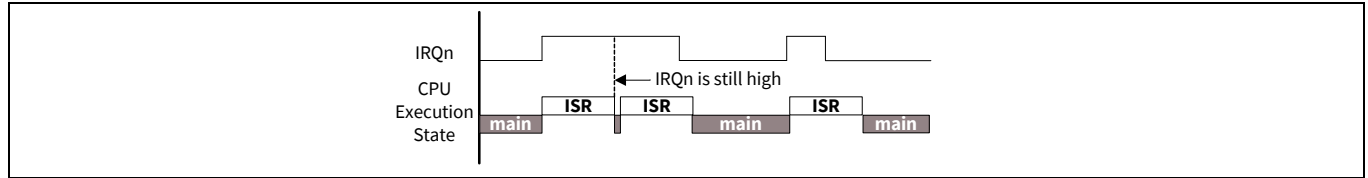
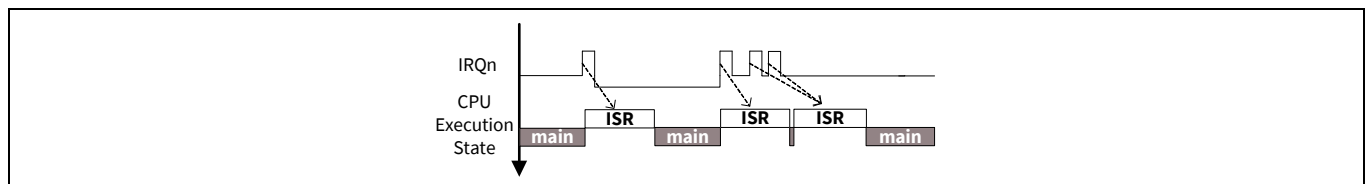

Figure 8-3. Level interrupts
Figure 8-4. Pulse interrupts
Figure 8-3 and **Figure 8-4** show the working of level and pulse interrupts, respectively. Assuming the interrupt signal is initially inactive (logic low), the following sequence of events explains the handling of level and pulse interrupts:
3. For pulse interrupts, when the ISR is being executed by the CPU, one or more rising edges of the interrupt signal are logged as a single pending request. The pending interrupt is serviced again after the current ISR execution is complete (see **Figure 8-4** for pulse interrupts).
4. For level interrupts, if the interrupt signal is still high after completing the ISR, it will be pending and the ISR is executed again. **Figure 8-3** illustrates this for level triggered interrupts, where the ISR is executed as long as the interrupt signal is high.